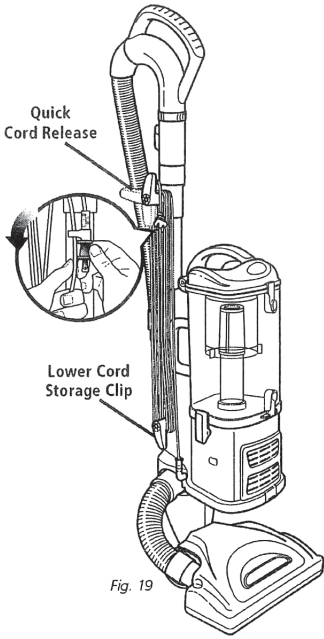

Fig. 19
- 2 Rotate the upper quick cord release to its upright position and coil the power cord loosely around the two clips. Clip the plug onto the cord to secure. (Fig. 19)